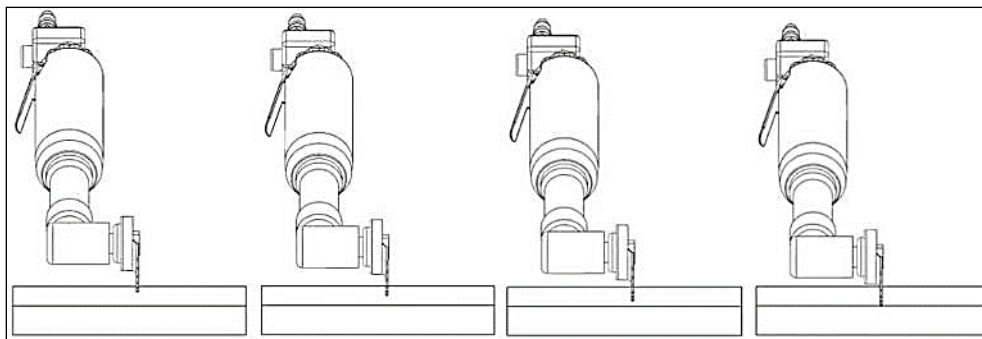

Figure 5. Incremental Material Removal Steps
- 3.2.3. Cut/score the thick elastomeric coating in incremental steps using multiple passes and depth adjustments. See **Figure 5**.